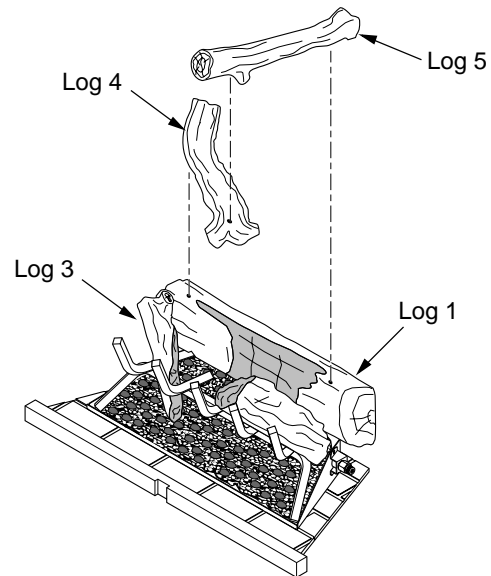
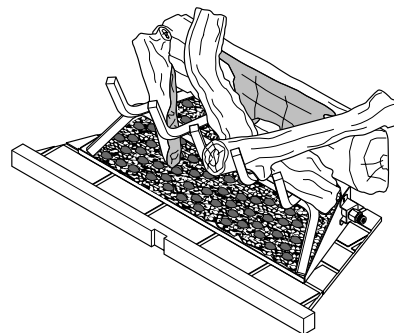

Figure 27 - Installing Logs 4 and 5
Figure 28 - Logs Installed
4. Insert peg on back of log 4 into hole on top left of log 1. Rest the front of log 4 on the grate as shown in Figure 27.
5. Insert peg on back of log 5 into hole on the top right of log 1 (see Figure 27). Rest the bottom of log 5 on grate as shown in Figure 28.